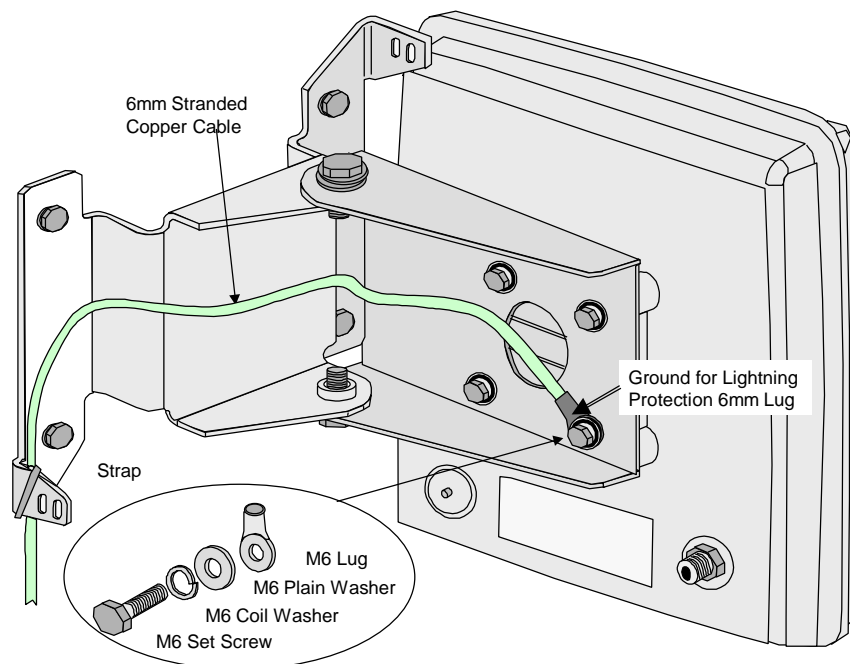

Figure 20. Lightning Protection for Exposed Bracket Mounted Antenna
- Fit a 6mm lug to the cable at the antenna end. Attach to the pole mount bracket using the lower right M6 set screw as shown in Figure 20.